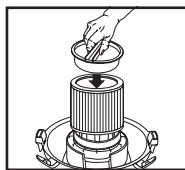

FIGURE 10
16. Place filter retainer into the top of the cartridge filter. **FIGURE 10.**